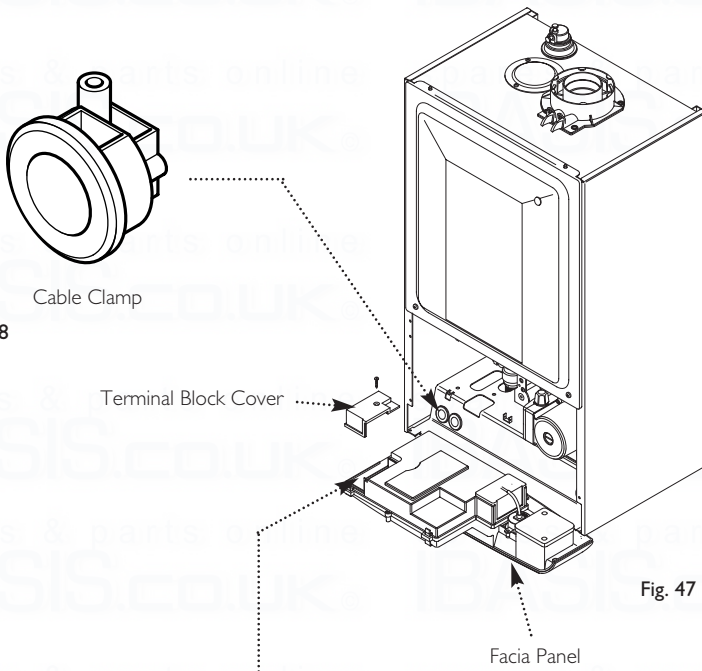

Fig. 48
4. Slacken the unused cable clamp on the LH side of the boiler chassis (Fig. 48). Insert the external control wiring through the clamp and route it to the terminal block.